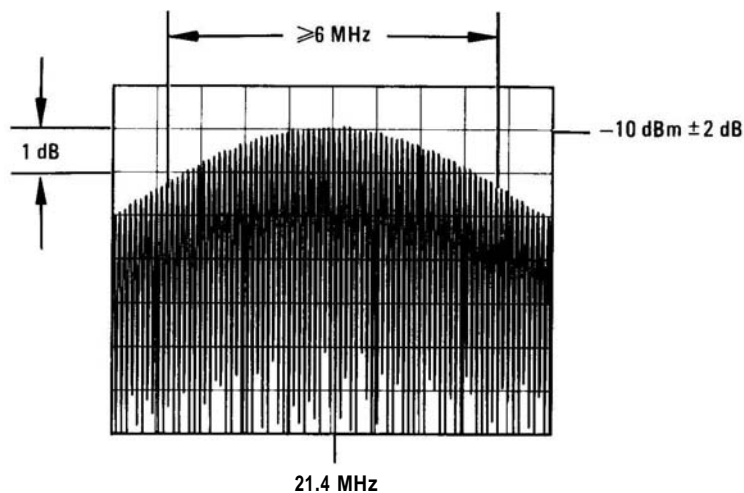

FIGURE 5-15. SECOND IF BANDPASS FILTER RESPONSE
13. Adjust function generator amplitude and frequency for at least 10 MHz deviation (± 5 MHz) and an easy-to-view display on the 8569B spectrum analyzer. Refer to Figure 5-15. Increasing the frequency of the function generator will increase the swept frequency range of the sweep oscillator.
15. Refer to Figure 5-15 for example of properly adjusted bandpass response and requirements for response.